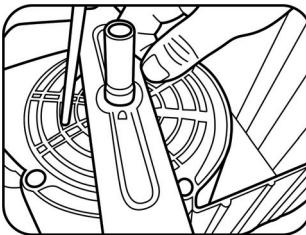

Fig. 7.2
- ❖ Loosen the blade bolt and remove the blade. Then retighten firmly. Figure 7.2